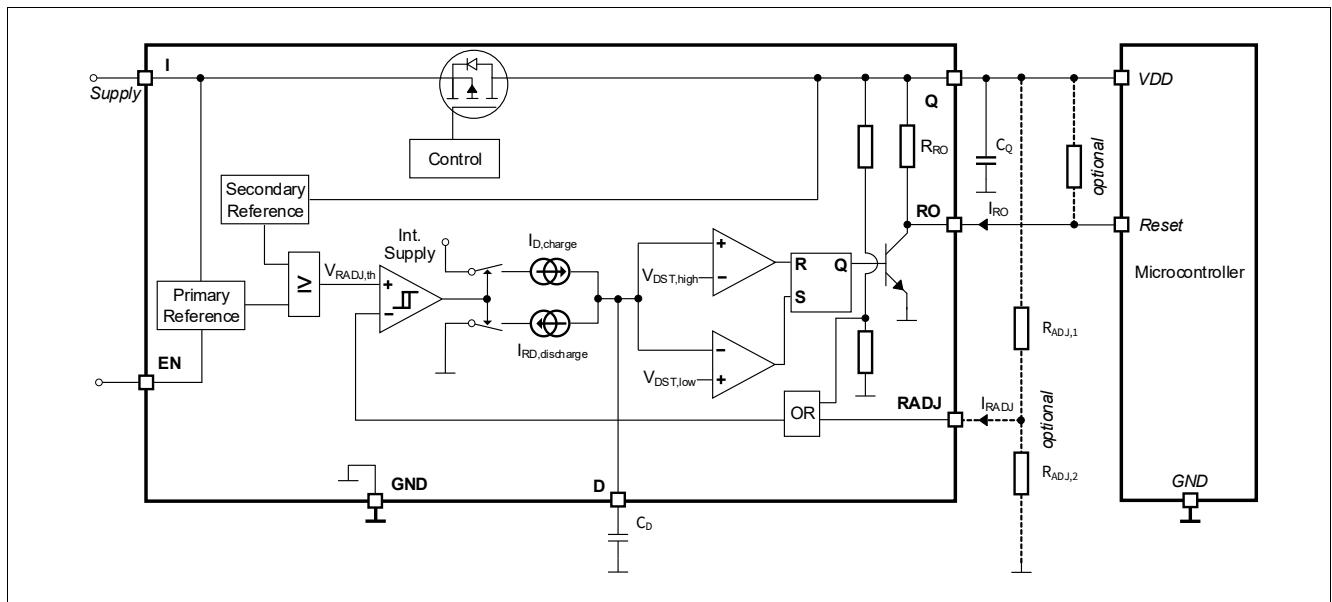

Figure 7 Functional block diagram reset
- $R_{ADJ,1}, R_{ADJ,2}$ : Resistors of the external voltage divider, see Figure 7
$V_I = 13.5\text{ V}$ ,  $T_j = -40^\circ\text{C}$  to  $150^\circ\text{C}$ ; all voltages with respect to ground; direction of currents see Figure 7 (unless otherwise specified)